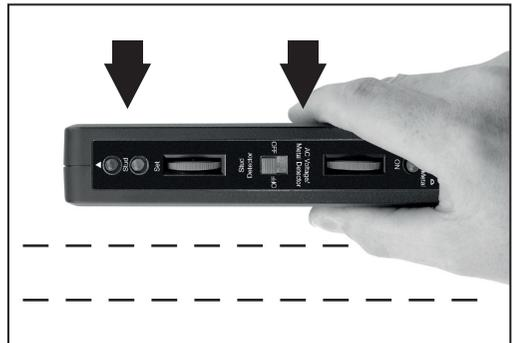

Fig. 4
- The device can be used to detect horizontal studs when held in a horizontal position and moved vertically along the wall face (Fig. 4).